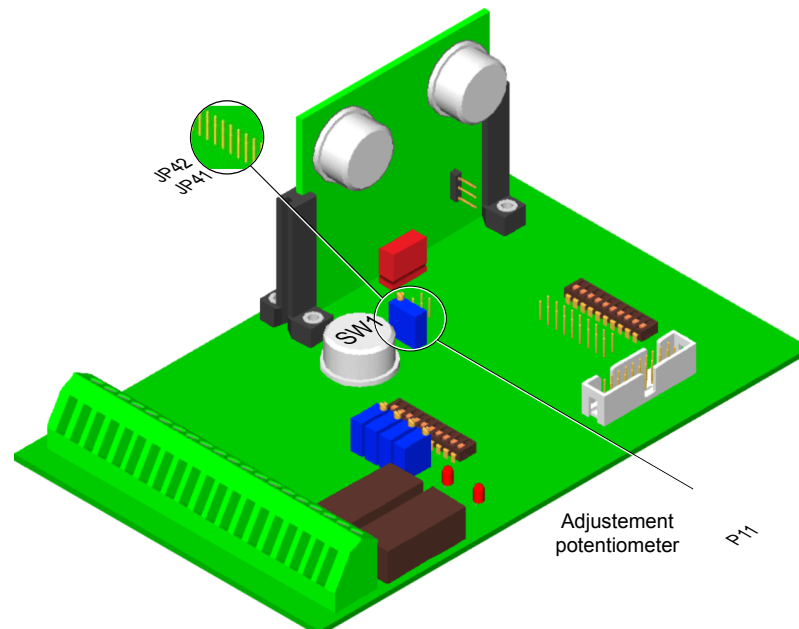

Fig. 3–5 Location of the X coefficient adjustment components
- Place the micro-switch SWB9 (see *figure 3–3*) on ON to activate the test signal.
- Plug in the jumper JP41 and remove the jumpers JP33 and JP42 (see *figure 3–5*).
4. The micro-switch is already positioned. Now adjust the potentiometer P11 to obtain an output voltage $U_{E O/P}$ equal to the input voltage $U_{O/P}$, set at 1 V and multiplied by the coefficient X, this with an accuracy of ± 20 mV. All adjustment components are shown on *figure 3–5*.